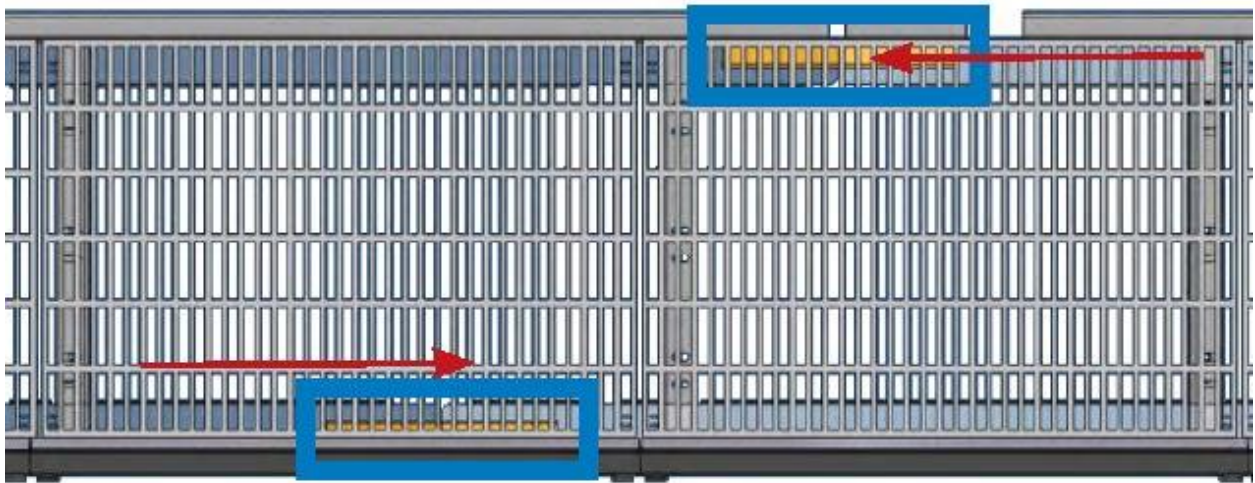

Figure 16. Move splice plates into positions shown
3. Begin joining the platform sections by offsetting the sections from each other as shown in **Figure 16**.